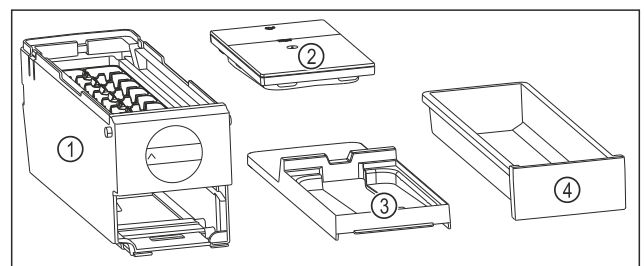

Fig. 132 Components of the EasyTwist-Ice
- ▶ EasyTwist-Ice is dismantled into four parts. (see Fig. 132)
- ▶ Only dismantle the EasyTwist-Ice into the components shown. (see Fig. 132)
- ▶ Clean the EasyTwist-Ice body Fig. 132 (1) as a whole.